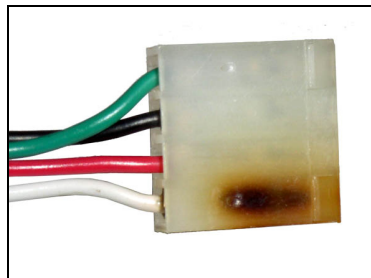

Fig. 2
2. Visually inspect the power cable connection at the power supply. Check for burned or charred marks on the plastic connector (Fig. 2).